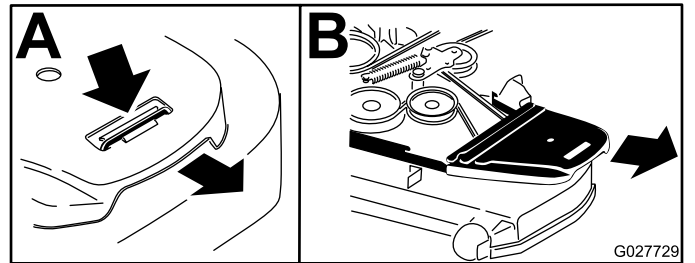

Figure 63
7. Remove the belt covers and the bolts attached to them (Figure 63).